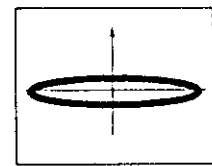

Fig. 2
4. Fine - adjust the grating so that the Y - axis amplitude of the Lissajous figure is minimized. (Fig. 2)
9. Re - open the TRKG servo and observe the Lissajous figure to check that the Y - axis amplitude is minimum. (Fig. 2) If the Y - axis amplitude of the Lissajous figure is larger than specified, repeat the adjustment procedure from steps 5 to 8.